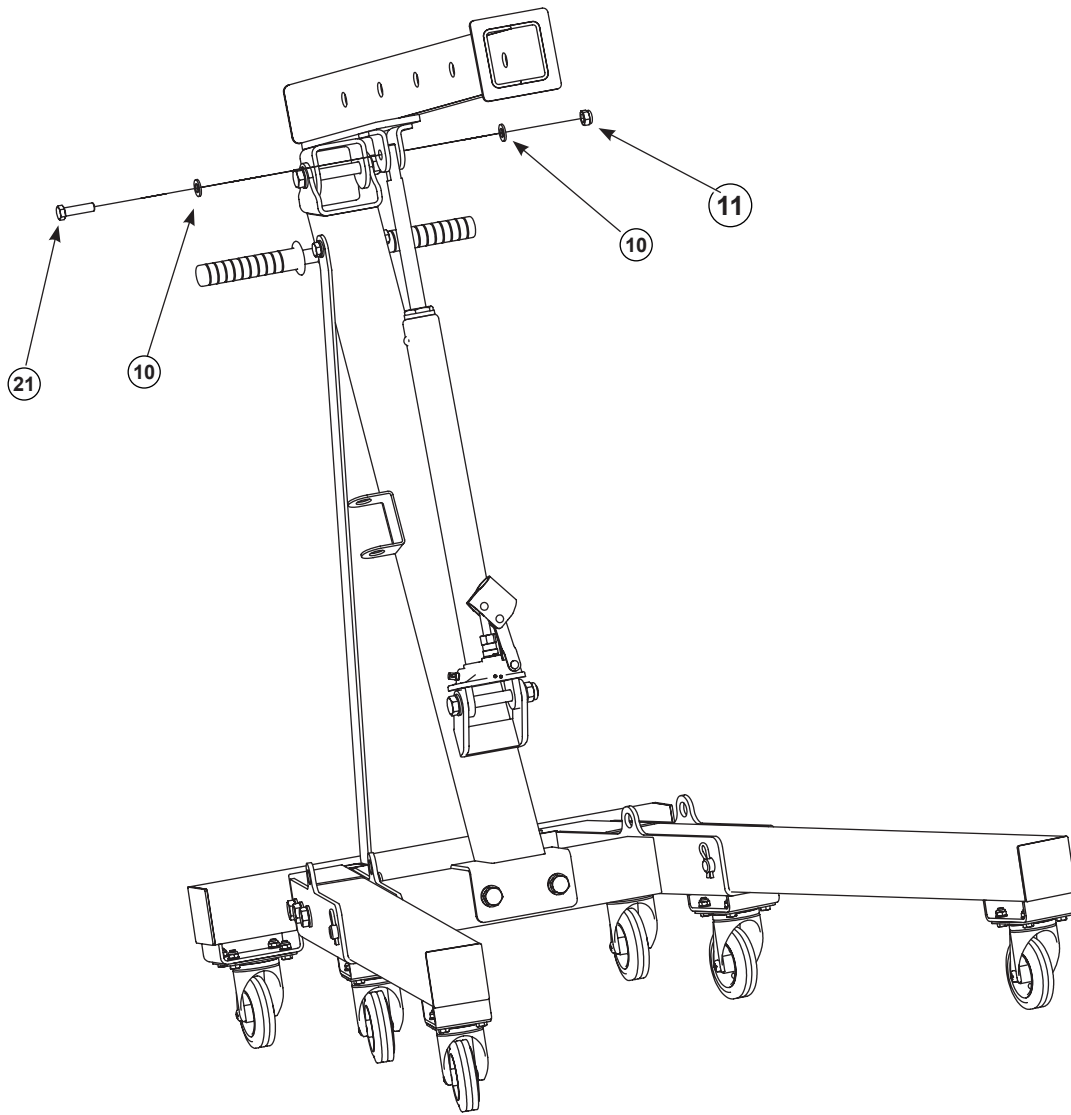

Figure 16 Boom Installation (3 of 3)
3. See Figure 16. Loosely install lock washer (10), nut (11), and bolt (21).
5. See Figure 16. Utilizing a wrench or equivalent tool, tighten bolt (21) and nut (11) to 118.0 ft-lb (160 N•m).